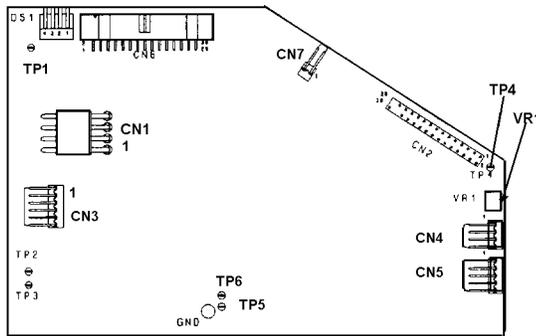

Figure 6-12 Printer Driver PCB
- With only the liner blocking the low stock sensor, measure the voltage between TP4 on the Printer Driver PCB and chassis ground. Refer to Figure 6-12. Adjust VR1 on the Printer Driver PCB until the voltage at TP4 measures +1.0 VDC (± 0.1 VDC). If the voltage at TP4 can't be adjusted to the +1.0 VDC (± 0.1 VDC) value then replace the low stock sensor.